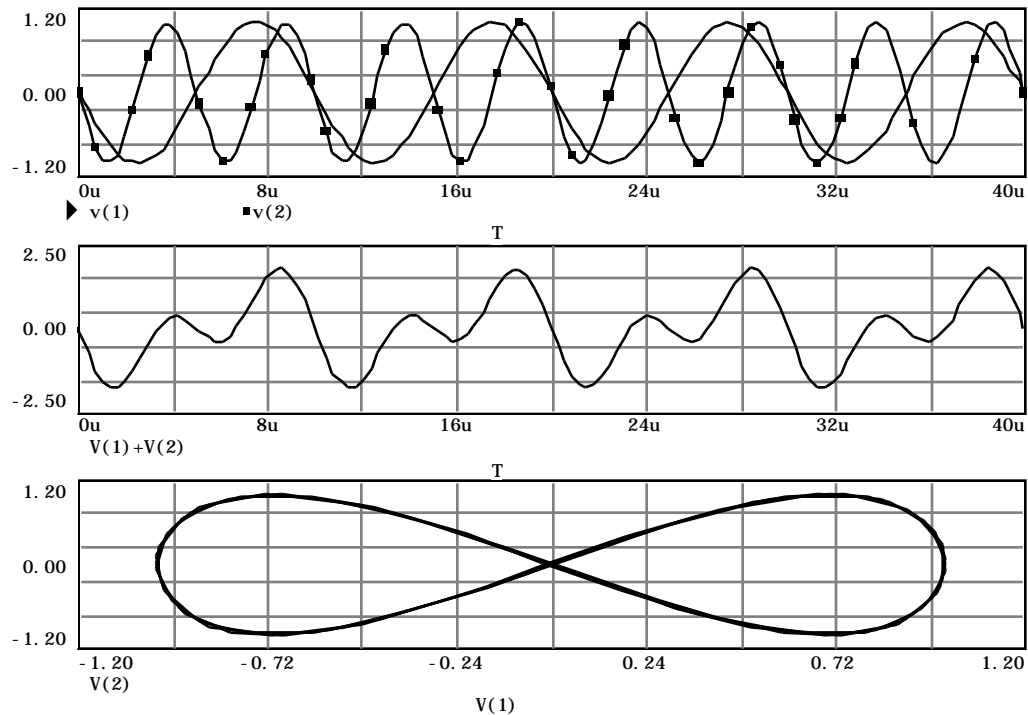

Figure T16 Various plots generated by sinusoidal sources
The entries in the limits box shown in Figure T15 are intended to produce three plots. One plot will display voltages waveform v (1) at node 1 and waveform v (2) at node 2. The second plot will show the sum of v (1)+ v (2). The third plot will plot v (1) vs. v (2). The last plot is similar to X-Y mode of the scope. In our case, it produces the so called Lissajous figure. The results are shown in Figure T16.